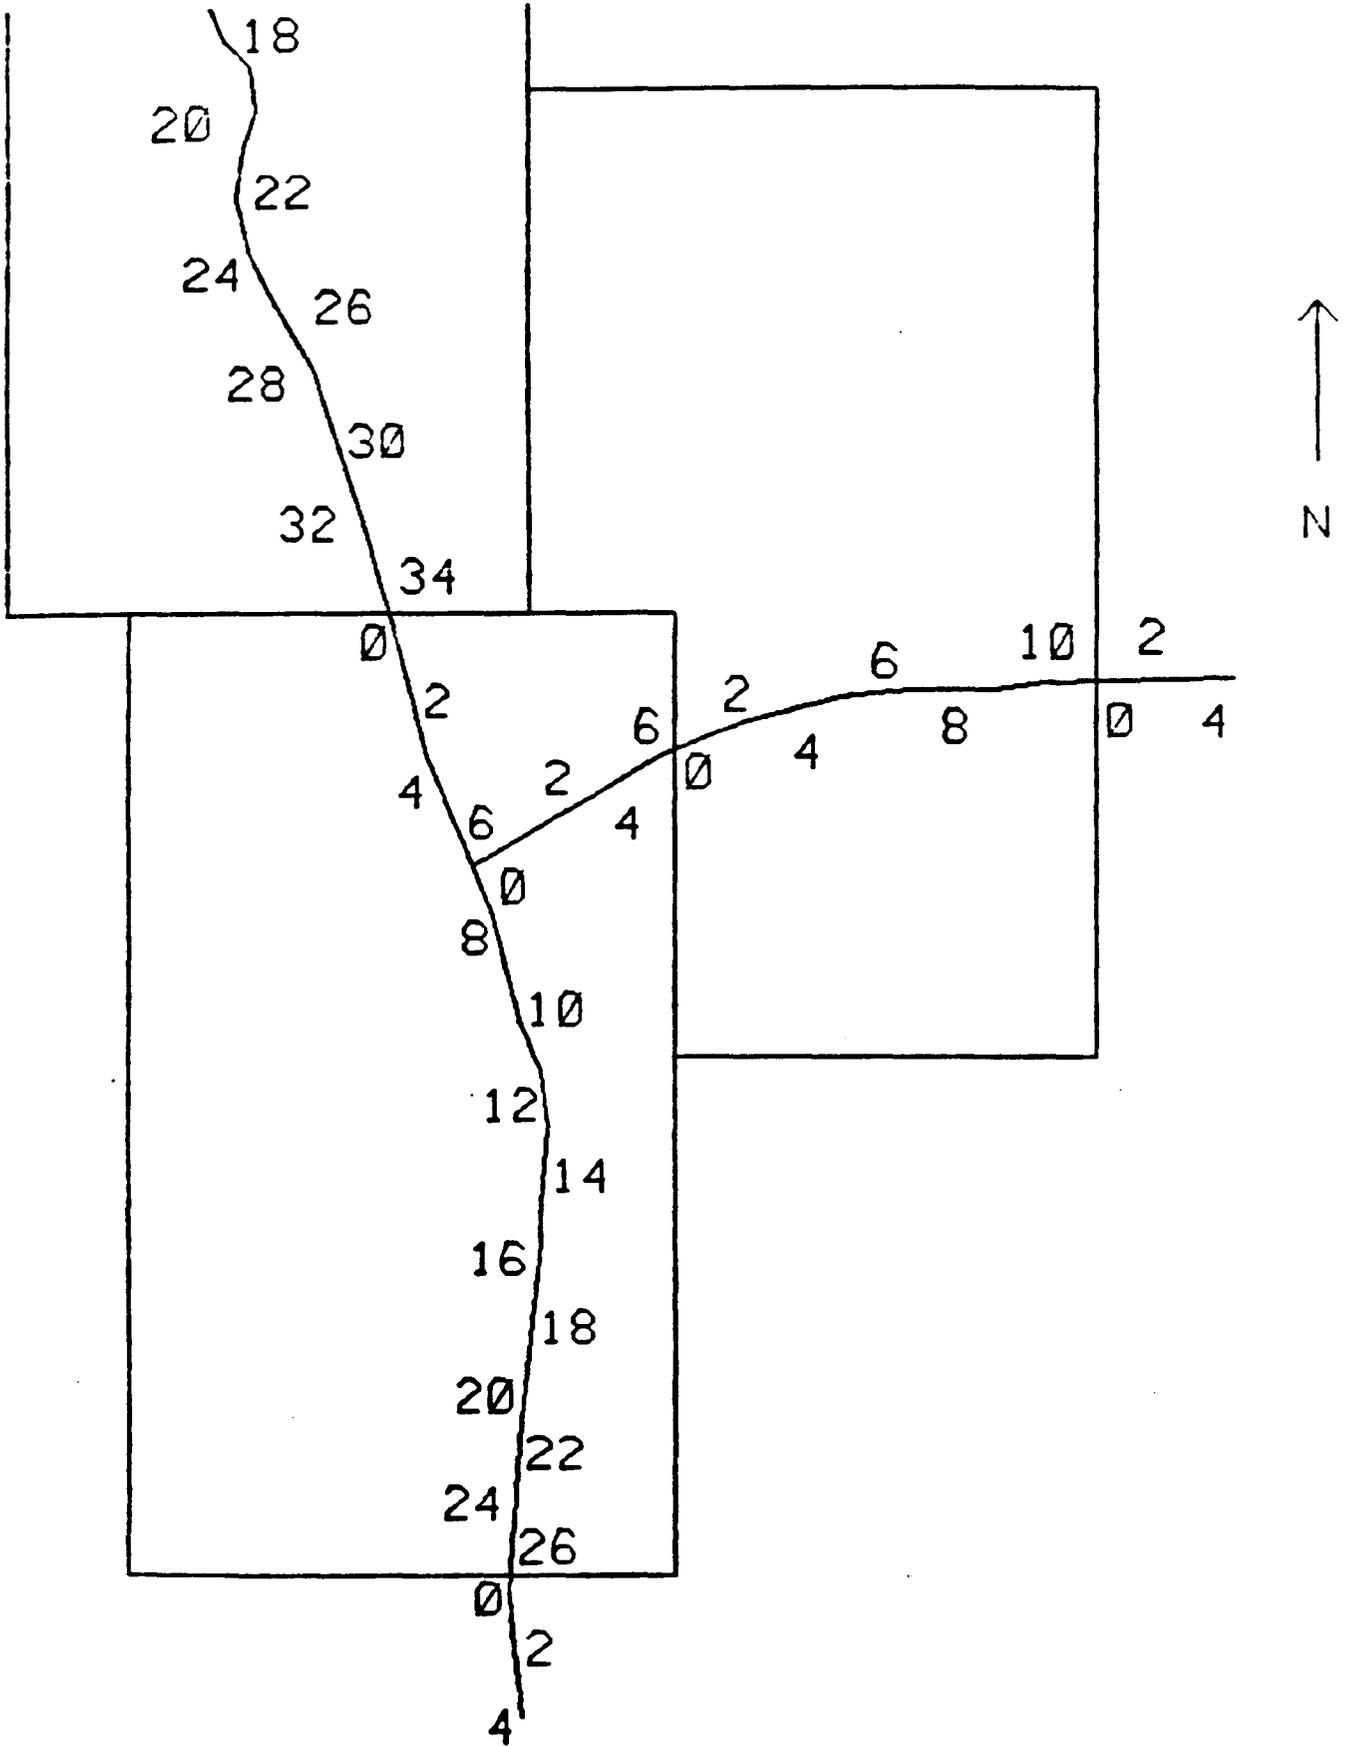

Figure 2.3 -- Milepost Numbering for Non-Interstate Roads Which Cross County Lines
3. If the road (non-Interstate) crosses a county line, the milepost numbers are reset to zero, and milepost 0 is located at the point where the road crosses the southern or eastern county line. Refer to Figure 2.3.